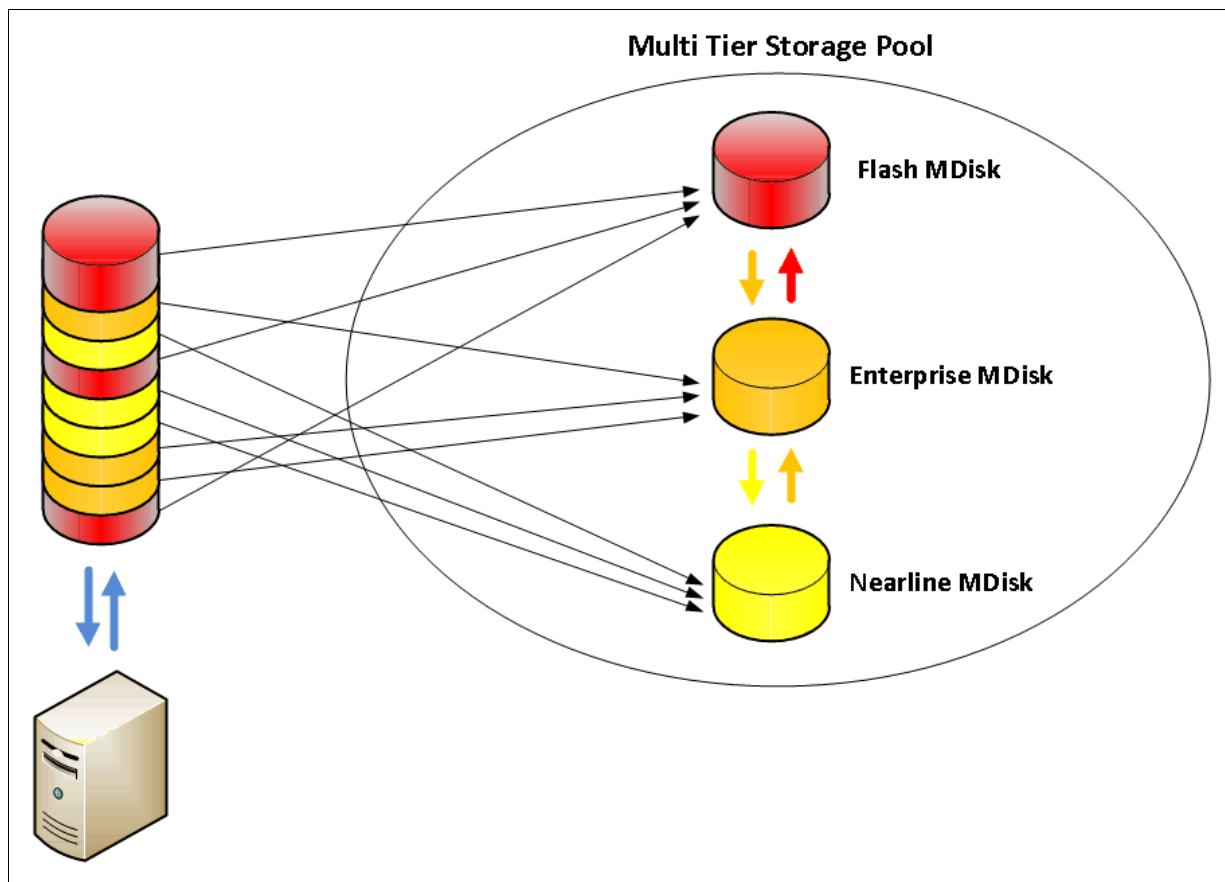

Figure 9-13 Easy Tier Data Migrator
This rate equates to around two terabytes (TB) per day being migrated between disk tiers, as shown in Figure 9-13 on page 427.